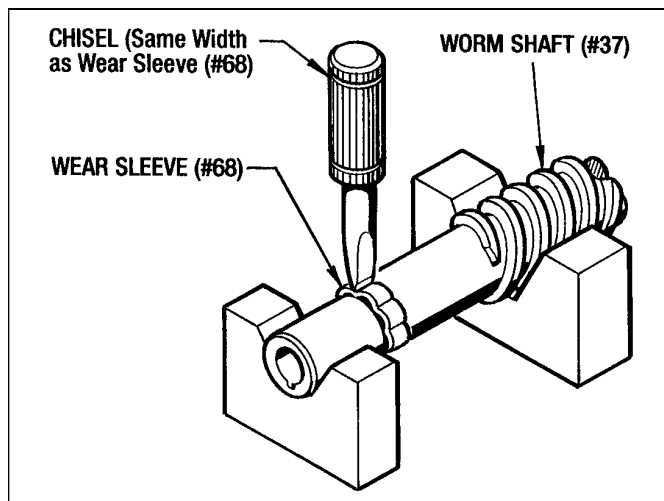

Figure 7.6 - Removing Wear Sleeve (#68)
1. Remove the (2) Screws (#352) and (2) Lock Washers (#327) and pull the Brake Assembly off.
3. Remove the (4) Screws (#150) and take the Adapter (#901) and Gasket (#132) off. Throw the gasket away.
5. Place the Worm Shaft (#37) into a suitable V-Block Support and with a chisel the same width as the Wear Sleeve (#68) make about 5 or 6 notches in the Wear Sleeve. The Wear Sleeve (#68) can now be removed from the Worm Shaft. (See Figure 7.6)
6. Place the Worm Shaft (#37) into a suitable V-block support or vice and with a chisel the same width as the Wear Sleeve (#69) make about 5 or 6 notches in the Wear Sleeve. The Wear Sleeve (#69) can now be removed from the Worm Shaft. (See Figure 7.6).
2. With the same procedure as shown in Figure 7.6 remove the Wear Sleeve (#67) from the Hub (#2). *Figure 7.6 is on page 15.*